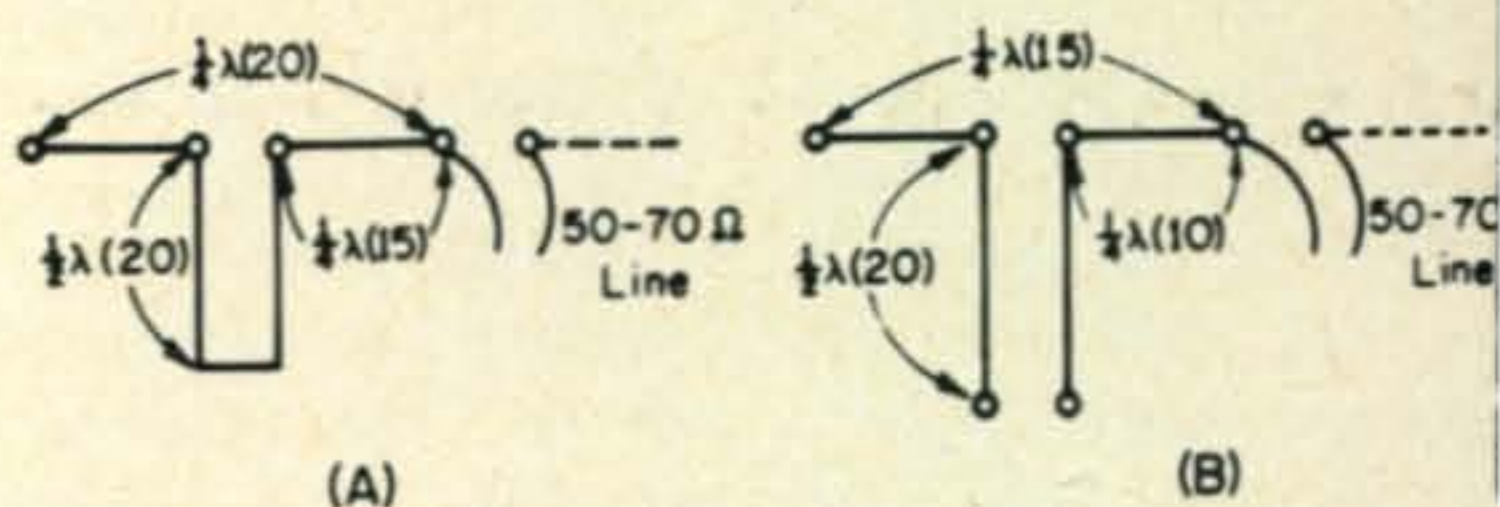

Fig. 5—Dual band antenna at (A) operates on 20 and 15 meters; antenna (B) on 15 and 10 meters. Only one side of each antenna flat-top length is shown.
The idea of using stubs for multiband antennas can also be extended to models for 20 and 15 meters as well as 15 and 10 meters. Figure 5(A) shows a design for 20 and 15 meters. On 20 meters, the $\frac{1}{2}\lambda$ closed-end stub reflects a short circuit to the antenna flat-top which then forms a regular $\frac{1}{2}\lambda$ long dipole. On 15 meters, the stub becomes $\frac{3}{4}\lambda$ long. The half wavelength of the $\frac{3}{4}\lambda$ length produces no impedance change; the remaining $\frac{1}{4}\lambda$ sections transforms the closed-end termination into an open circuit between the flat-top sections. The inner two flat-top sections form a $\frac{1}{2}\lambda$ long 15 meter dipole.
The action of the 15/10 meter antenna shown in fig. 5 (B) is basically the same. The $\frac{1}{2}\lambda$ stub ($\frac{1}{2}\lambda$ on 20 meters or a wavelength on 10 meters) which is open-ended, joins the flat-top antenna sections on 15 meters and insulates them on 10 meters.